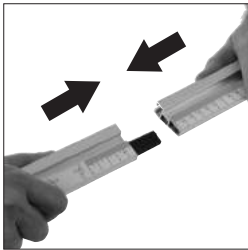

Fig. 10
Note: The fence rail is supplied in two pieces (L) which slot together. The plastic connecting tongue (M) should be inserted into the voids in the two extrusions to bridge both parts of the Fence Rail. (Fig. 10)